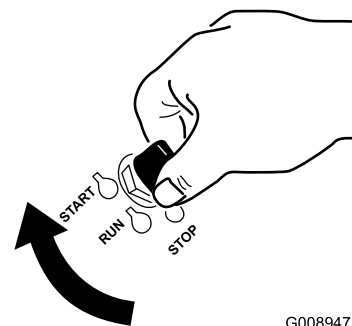

Figure 13
1. Turn the ignition key to the Start position (Figure 13). When the engines starts, release the key.
7. Turn the ignition key to the Start position (Figure 13). When the engine starts, release the key.